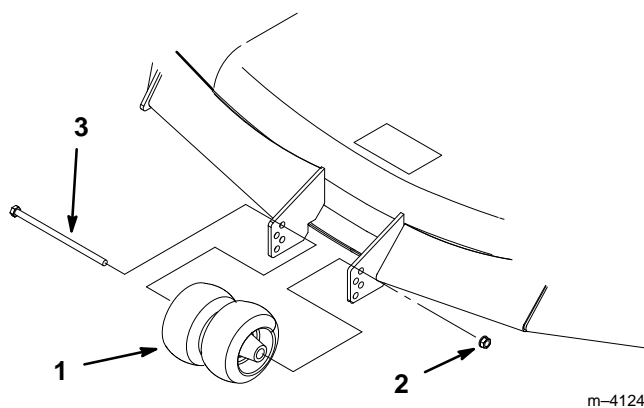

Figure 13
1. After adjusting height-of-cut, remove bolt and nut (Fig. 13).
2. Select hole so gage wheel is positioned to the nearest corresponding height-of-cut desired (Fig. 13).
3. Reinstall the bolt, center rollers and nut (Fig. 13).